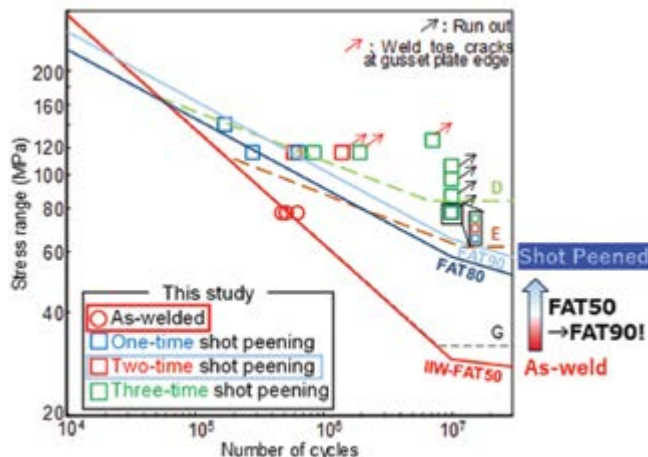

Fig.8 Fatigue test results of shot peening6)(7)(8)
In this paper, the circulating shot peening method was adopted to introduce compressive residual stress into welded joints and thereby improve fatigue strength. The circulating shot peening method utilizes the same circulating blast method\* used during repainting for paint removal. By replacing the abrasive media with conditioned cut wire conforming to JIS G 0951, and using existing scaffolding and protective equipment, this method can be implemented efficiently. It is an environmentally friendly maintenance technology for existing steel bridge welded joints, enabling the recovery and reuse of shot. This method is less dependent on operator skill than grinder finishing, and consistent construction quality can be achieved by managing the shot and peening conditions. Fatigue test results(6)(7)(8) on out-of-plane gusset welded joints show that this method improves fatigue strength from FAT50 to FAT90, according to the classification defined by the International Institute of Welding (IIW) as shown in Fig.8. These results satisfy the fatigue design curves proposed for HFMI treatment in the IIW recommendations(9).
carried out under treatment conditions (a coverage rate of 90% or more and a nozzle speed of 72 seconds per meter (Table 3)) that satisfy the fatigue test results shown in Fig.8.